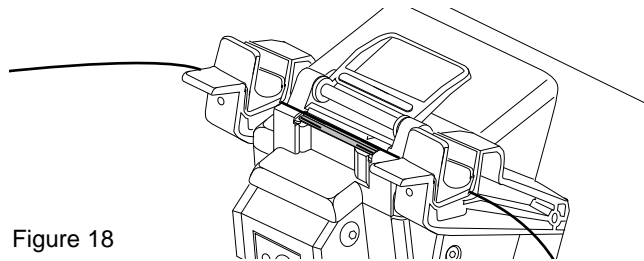

Figure 18
- b). Raise the transfer arms to the Splice Pak fixture. The transfer arms will center the fusion splice in the protector (Figure 18).